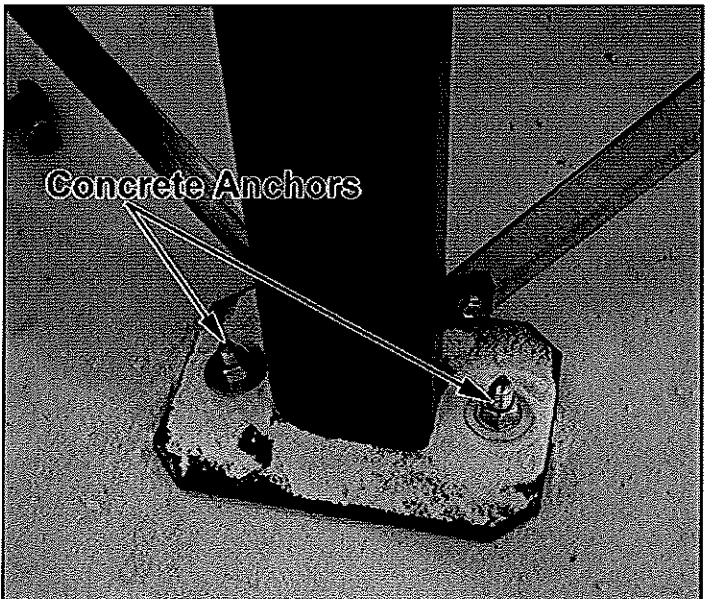

Figure 4
- Drill (2) 10" minimum-depth holes per leg into concrete to allow expansion or epoxy anchors to be properly installed. See Figure 4.